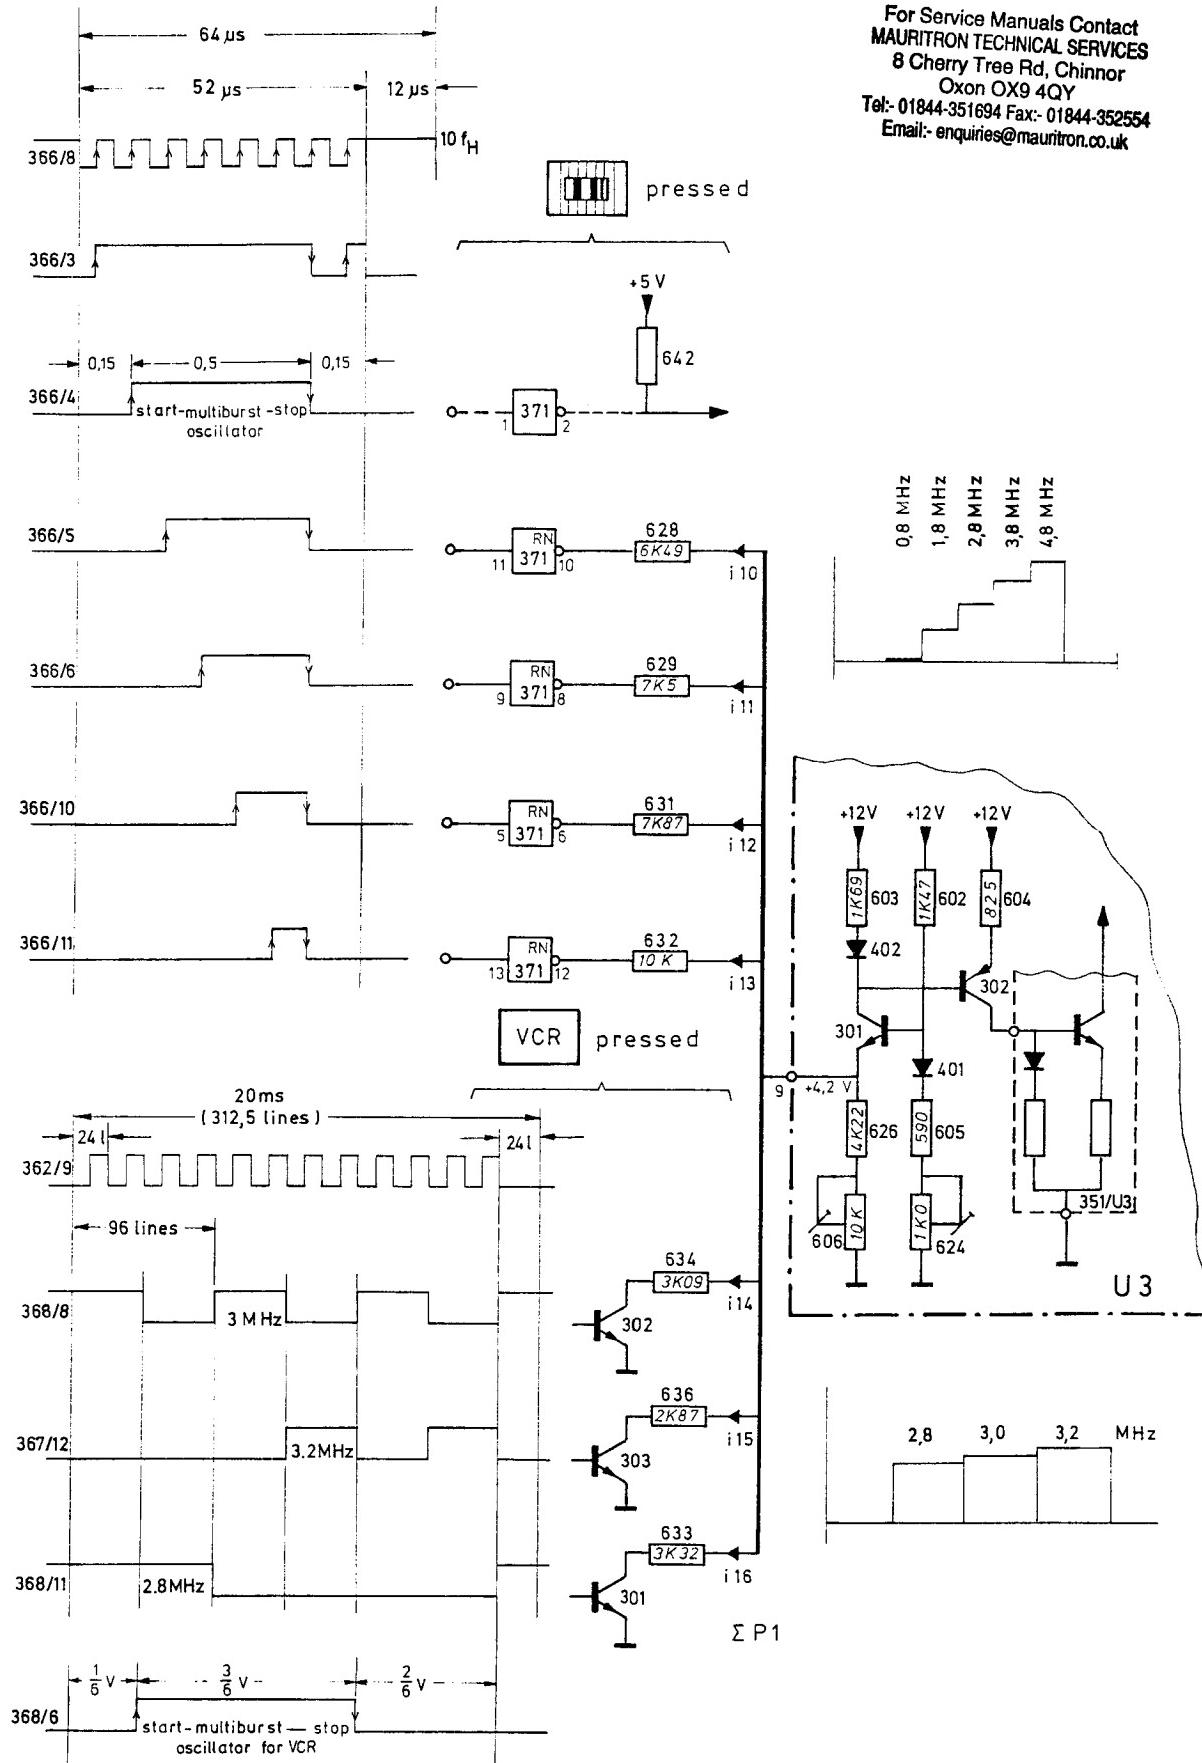
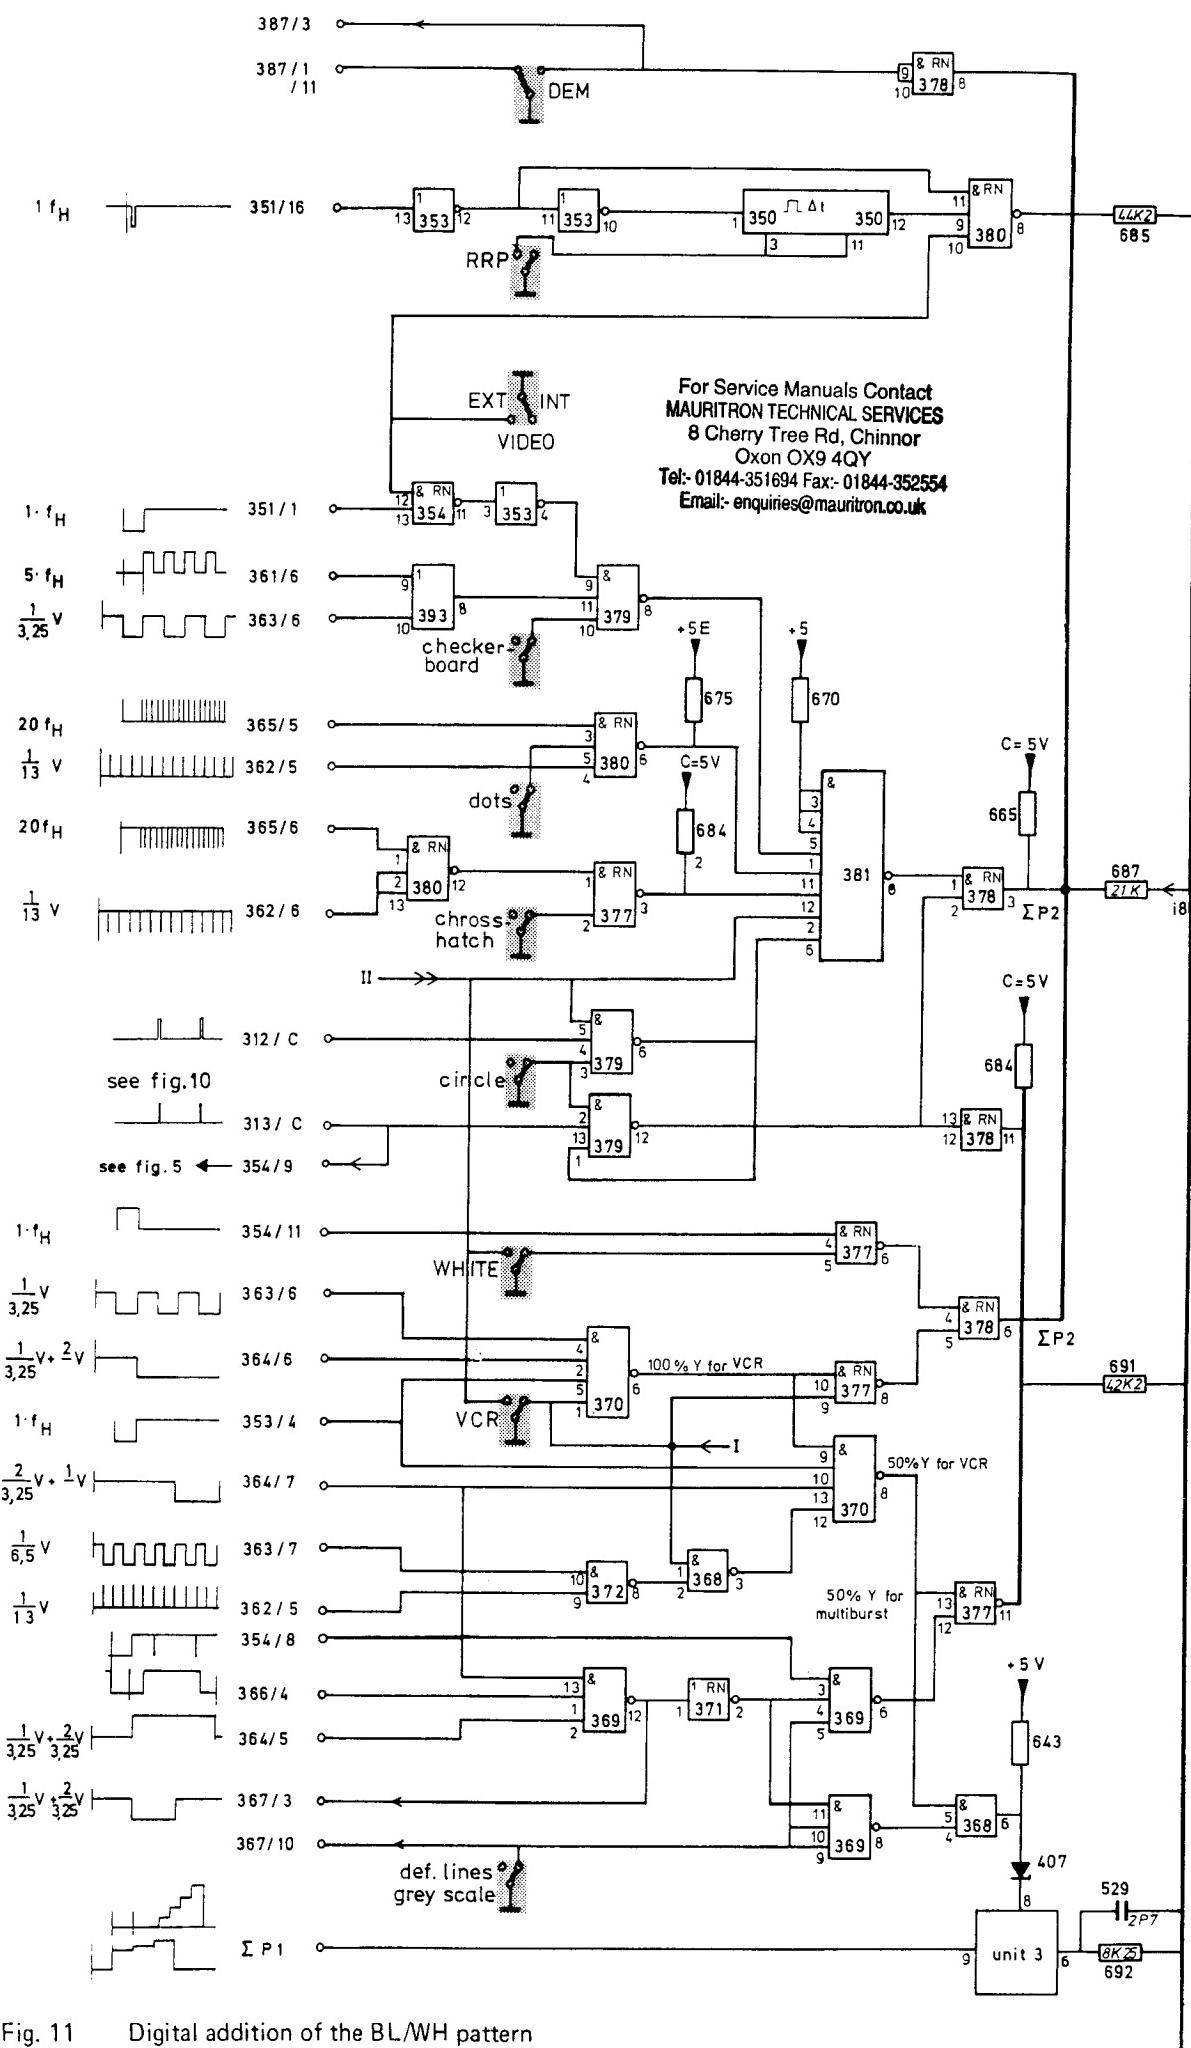

Fig. 9 Control signals for multiburst oscillator
Fig. 11 Digital addition of the BL/WH pattern
The staircase signals for control of the multiburst oscillator, input unit 3 in fig. 9, are generated by summing the components of the generator 366/4/5/6/10/11 for the 5 vertical bars with different frequency groups (definition lines).
- 2.2.4.1. **In line rhythm** the inputs of the inverters 371/11/9/5/13 progressively receive H-level and thus 'switch' the concerning resistors, connected to the summing point ΣP_1 , via 371/... single-ended to ground. By this the summing point, being at a dc level of 4.2 V, is deprived of current, compensated by the input stage. In principle this input circuitry of the multiburst oscillator is a current/voltage/current converter, fig. 9.
The pulses which generate the stepwise increasing current into pin 9/U3 are shown in fig. 9. Just as this current the multivibrator frequency changes too (5 groups or 3 groups).
2.2.6. Synthesis of the Black/White test patterns, figs. 11 and 12
Fig. 11 shows the connections between the required components for activation and inhibition of the chosen test pattern and the connection to the digital summing junction $\Sigma P2$. This summing junction $\Sigma P2$ is connected to the main summing junction $\Sigma P3$ via the resistor 687/U10, determining the amplitude. The potential of $\Sigma P3$ is +5 V; 100 % White means no current through resistor 687/U10 and high level at $\Sigma P2$.
The gates 379/6, 380/6, 377/3 (see fig. 11) are inhibited, because of low level at one input of each gate. The NAND-gate 381/8 couples the square wave signals $5 f_H$ (393/9) and $1/3.25 V$ (393/10) to the summing junction $\Sigma P2$, if no other pushbutton (VCR, white) is depressed. The AND-gate 393/8 combines the horizontal checkerboard pulses $5 f_H$ with the vertical $1/3.25 V$ pulses to 8 vertical checkerboard-bars and 6 horizontal one's. White pattern squares are generated, if $5 f_H$, $1/3.25 V$ and the blanking signal f_H have high level. So the NAND-gate 379/8 gets low level, NAND-gate 381/8 high level and the current in resistor 687/U10 is inhibited.
The gates 381 and 378/3 are combining the circle pulses with all test-pattern signals generated in this section (fig. 11). In the white squares of the checkerboard circle pulses 312/C are engraved by 379/6 (pulse width 312/C being larger than 313/C). In this engraved black circle the white circle 313/C is added by 379/12 and 378/2.
The NAND-gates 370/6, 377/8 and 368/3 are inhibited by the VCR switch (see fig. 11); the output level is high. By combination of the vertical signals 364/7 and 364/5 the vertical start-stop signal for the multiburst oscillator in 368/6 is generated. The horizontal start-stop signal is given by the signals in fig. 9. The composite blanking signal 353/4 stops the luminance during the blanking time. Above mentioned signals are combined with the composite blanking signal 354/8 (signal includes the circle blanking, if circle push-button is depressed) to the 50 %-Y signal (luminance) in the NAND-gate 377/11. The current 50 %-Y is coupled by resistor 691/10 to $\Sigma P2$. The grey scale is described in 2.2.4.3.
The summing junction $\Sigma P2$ has low level via AND-gate 378/8, fig. 11.
The depressed VCR pushbutton (fig. 11) enables the NAND-gates 370/6, 377/8 and 368/3 and disables the NAND-gates 379/6 and 381/8. The signals 363/6 and 364/6 are combined in 370/6 to a 1/6 V pulse, which switches the 100 % white to $\Sigma P2$. The following 3 horizontal bars are separated by a "one-line"-blanking pulse (black luminance). This special signal is generated by combination of the signals 363/7, 362/5, 364/7 and 353/4 and helps to see the limits between the 3 horizontal bars of frequency groups (2.8, 3.0 and 3.2 MHz). The required composite-blanking signal 354/8 (signal includes circle blanking pulses, if pushbutton "circle" is depressed) is coupled via the NAND-gate 369/6.